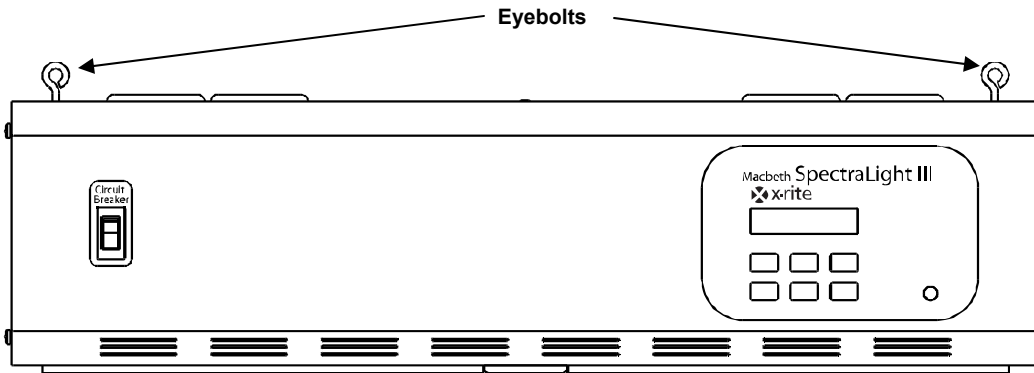

Figure 9. Overhead Luminaire
2. Remove the eyebolts (four for the single overhead, eight for the dual overhead) from the accessory package and screw them into the weld nuts located on top of the unit. Refer to Figure 9.